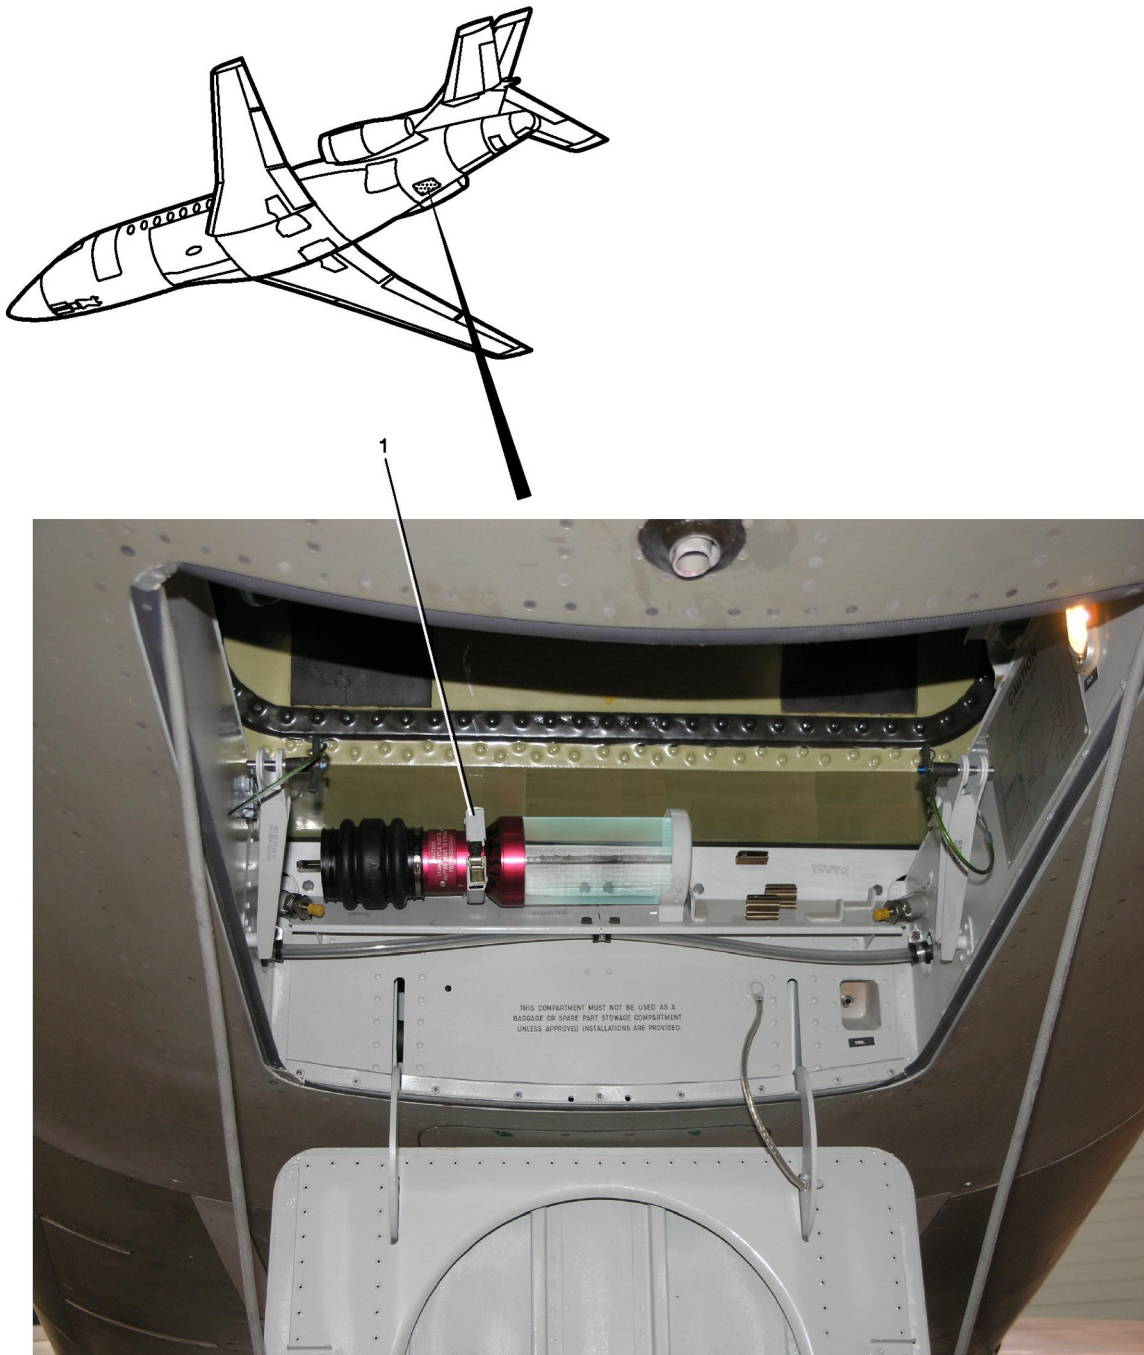

Figure 6: FUEL DRAINING BOTTLE
Refer to **fig. 6**
- D. Check for presence and correct attachment (1) of the fuel tank sumping tool (**FGFB912001A4**) or (**FGFB912001A5**) located under the fuel tank (**fig. 6**).
- C. Check stand-by electrical pump selector valve (**5ML**) for correct position (lever (2) set to "IN FLIGHT") and correct safetying of lever (2) (safety pin (1) for aircraft with SB F900EX-127 (**fig. 6**), or **lockwire** for aircraft without SB F900EX-127).